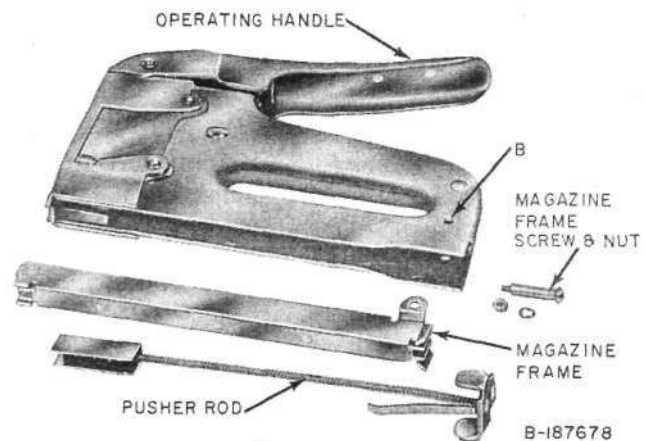

Fig. 4—D-Stapler Dismantled
- (1) Remove the pusher rod as described in 2.04.
- (2) Remove all staples which can be shaken out.
- (3) Remove screw and nut from hole B (Fig. 4).
- (4) Pull down magazine frame and channel and remove jammed staples.